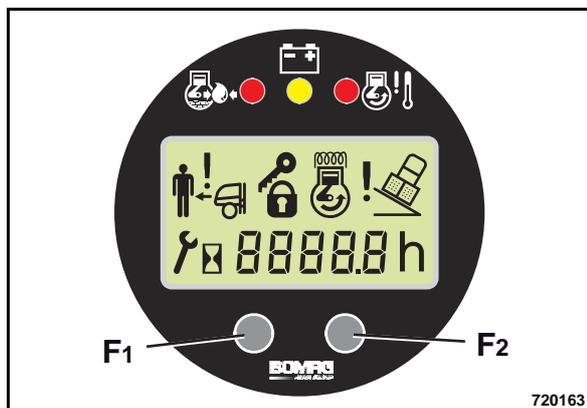

Fig. 80
- Keep both function keys F1 and F2 (Fig. 80) in the display module depressed for two seconds.